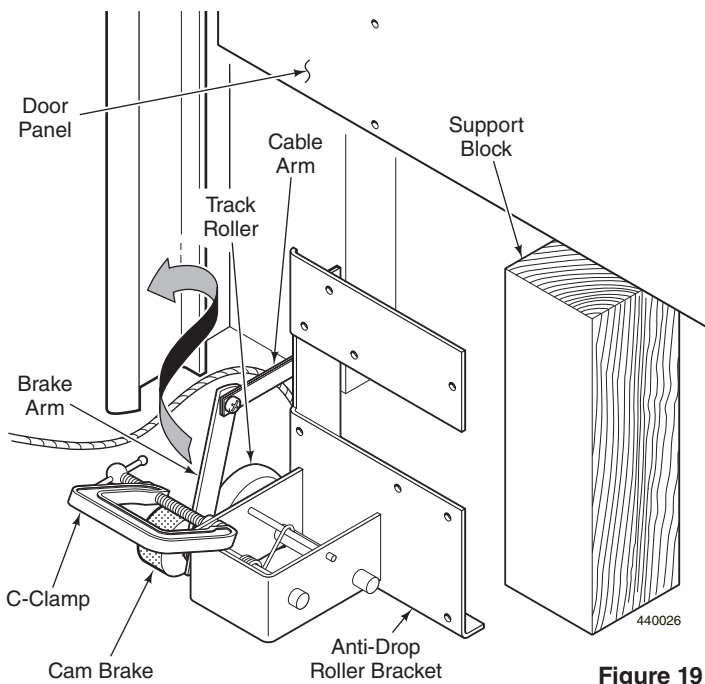

Figure 19
4. With jacks or a suitable lifting device, carefully raise the Door approximately 12 inches (enough for clearance above the Anti-Drop Roller Brackets). Rest the Door on support blocks. See Figure 19.
5. Tip the Roller and Bracket into the Vertical Track, then position it on the ground at the bottom of the Track. Repeat the procedure for the other Anti-Drop Roller Bracket. See Figure 19.